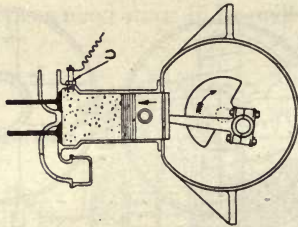
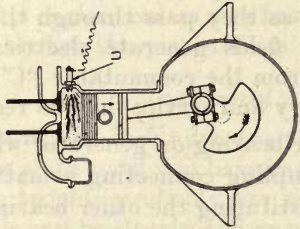

FIG. 2
FIG. 3
As the crank continues to revolve (we refer to Fig. 2, in which you see both valves closed), the advancing piston is decreasing the size of the space containing the gas, hence putting same under compression, which in this engine ranges between 40 and 50 pounds per square inch. At the moment the piston arrives at the top of the stroke, or dead center (being when the crank (A) and the connecting rod (R) are in line), the charge of gasoline vapor and air is exploded by means of an electric spark, generally given with a spark plug (U) described later. Upon firing, the expansion of the gas is very great, causing a pressure of 200 to 300 pounds to the square inch and thus forcing the piston downward again, as shown in Fig. 3, which is called the power stroke, or the explosion stroke.